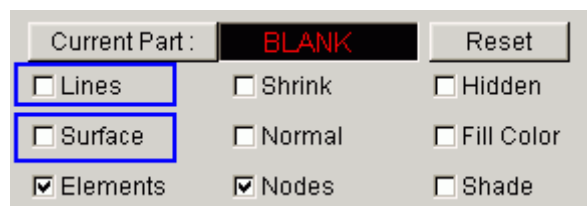

Figure 2.10: Display options
9. Now, you may toggle off the checkbox of **Surface** and **Lines** options from **Display Options** (shown in Figure 2.10) at the lower right bottom corner of the screen to hide all lines and surfaces.